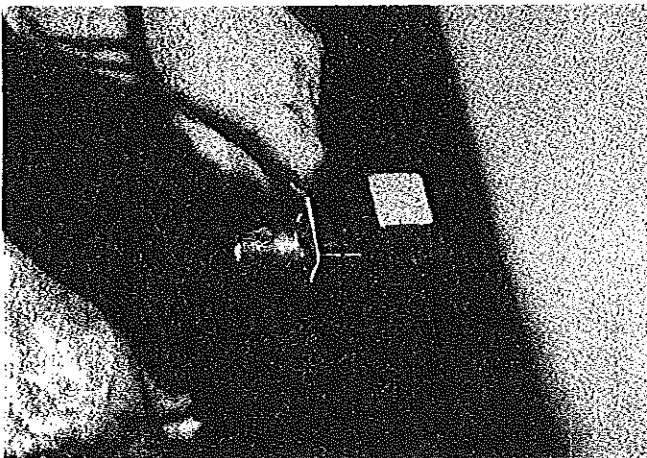
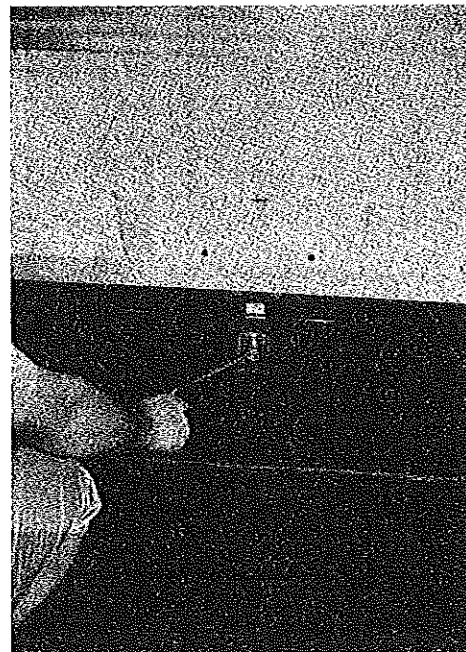

FIGURE 5
FIGURE 6
10. Rotate the crank handle clockwise slightly to release tension on the crank lock. Using your free hand, pull outward on the crank lock to allow top to be raised. See Figure 5. Rotate the crank handle clockwise to raise the top until it is fully extended or the tent fabric becomes reasonably taut, whichever occurs first. See Figure 6